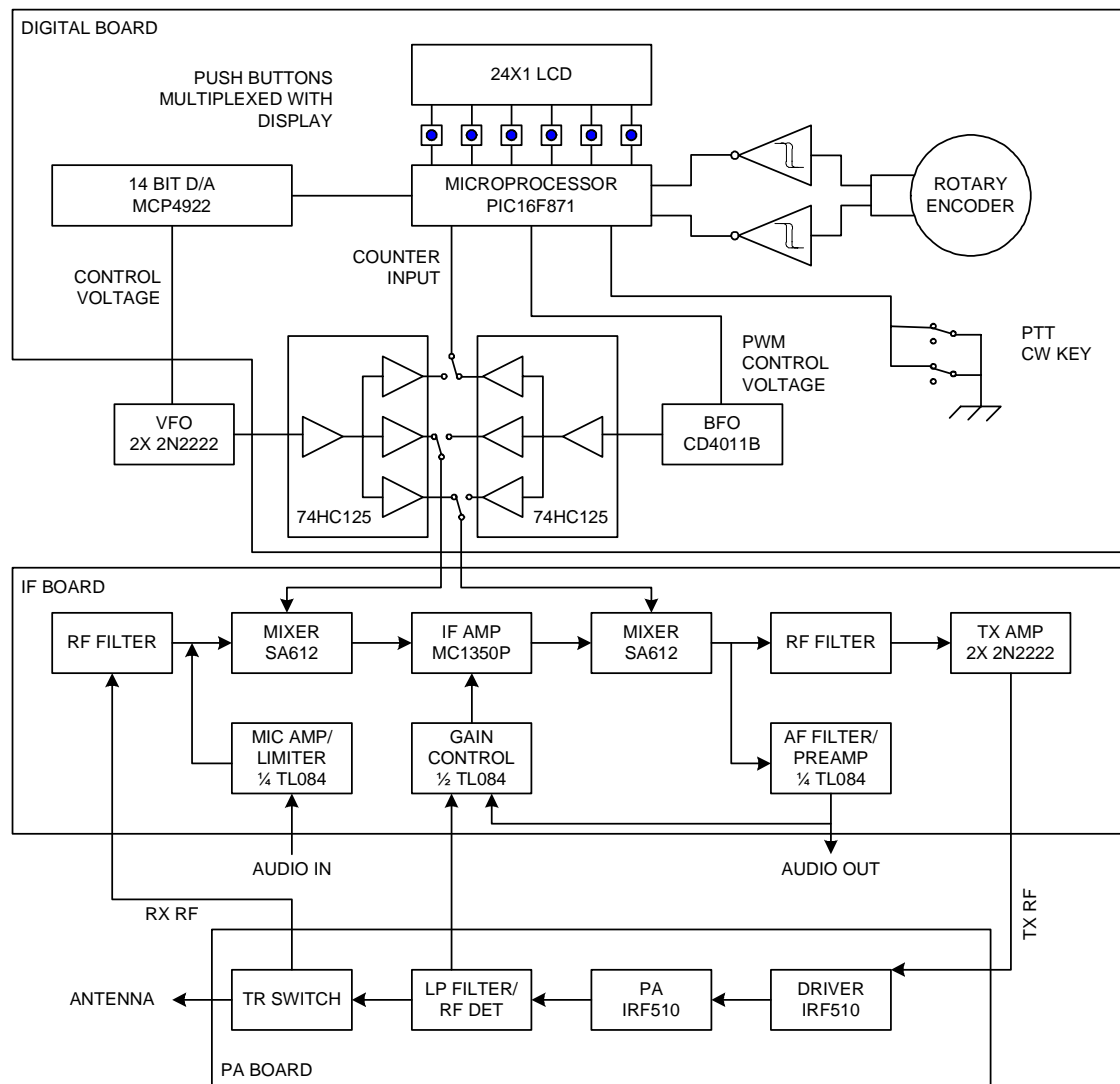

Figure 1: TAK-40 Block Diagram
The TAK-40 transceiver is designed on 4 modules; the digital section/front panel, the variable frequency oscillator (VFO), the intermediate frequency (IF) board, and the power amplifier (PA). The overall design is a classic super-heterodyne with a 4 MHz IF and a 3 to 3.3 MHz VFO. The same IF chain is used for TX and RX by switching the oscillator signals between the two mixers. Figure 1 shows the block diagram of the TAK-40 transceiver.